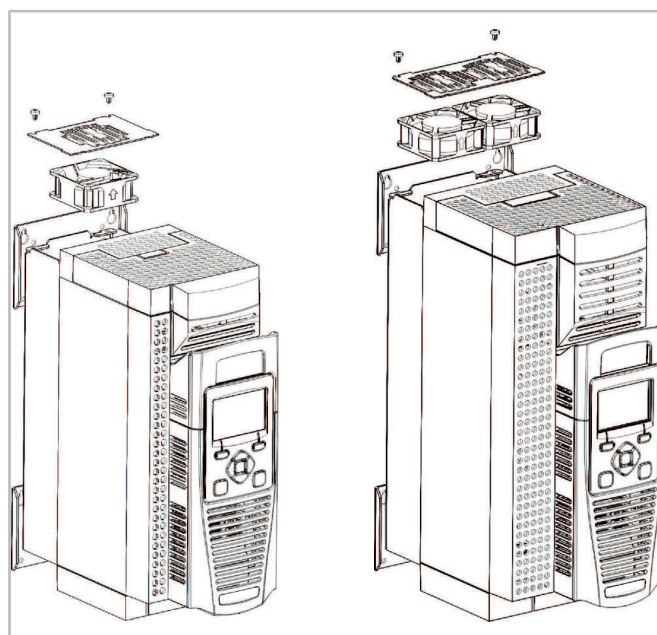

Fig. 30: Replacing the fans in the heat sink
- Take out the fan or fans, pull the plugs of the wiring and insert the new fan or fans. Make sure that the correct fan side points to the top. (see figure 30, page 41).